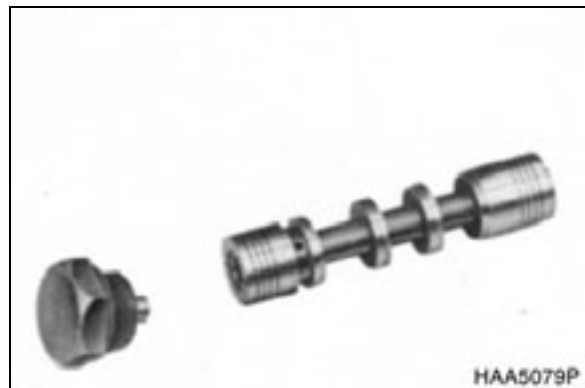

Figure 14
- Figure 14, shows PP plug and spool.